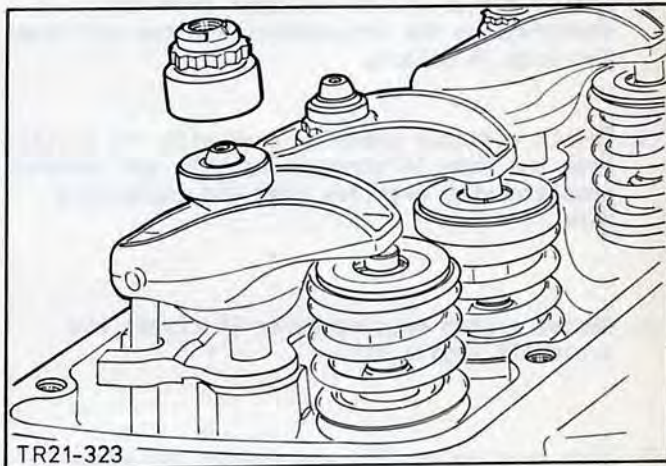

Fig.104. Fit rocker arms.
10. Position rocker arms and rocker guides on the push rods, Fig.104. fit adjusting nuts and check valve clearances (see operation 21 213).